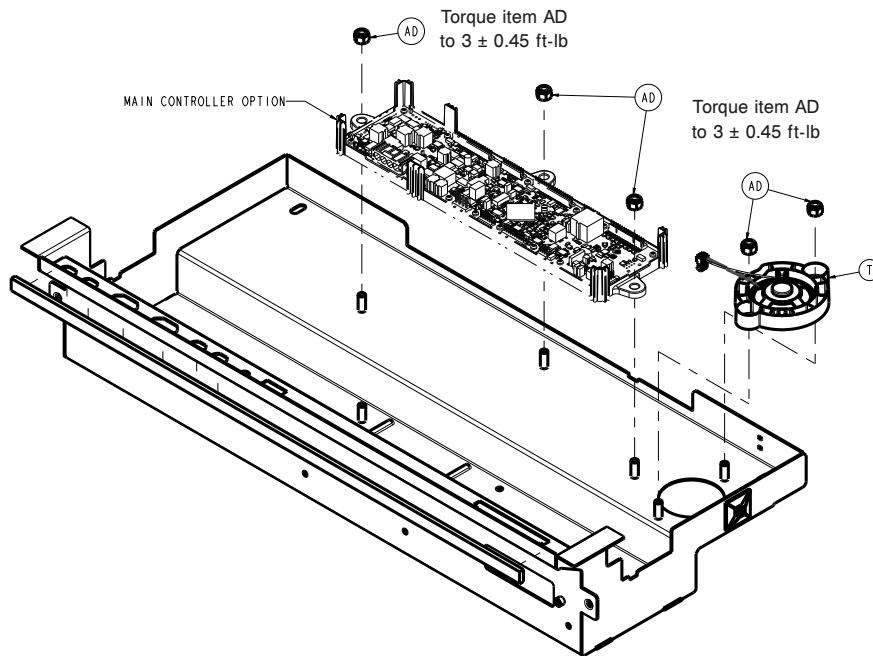

Figure 31 – Replacing the main control board
10. Using a ratchet and a 7/16" socket, remove the three nuts (AD) that secure the main control board to the electronics box assembly (Figure 31). Save the nuts.